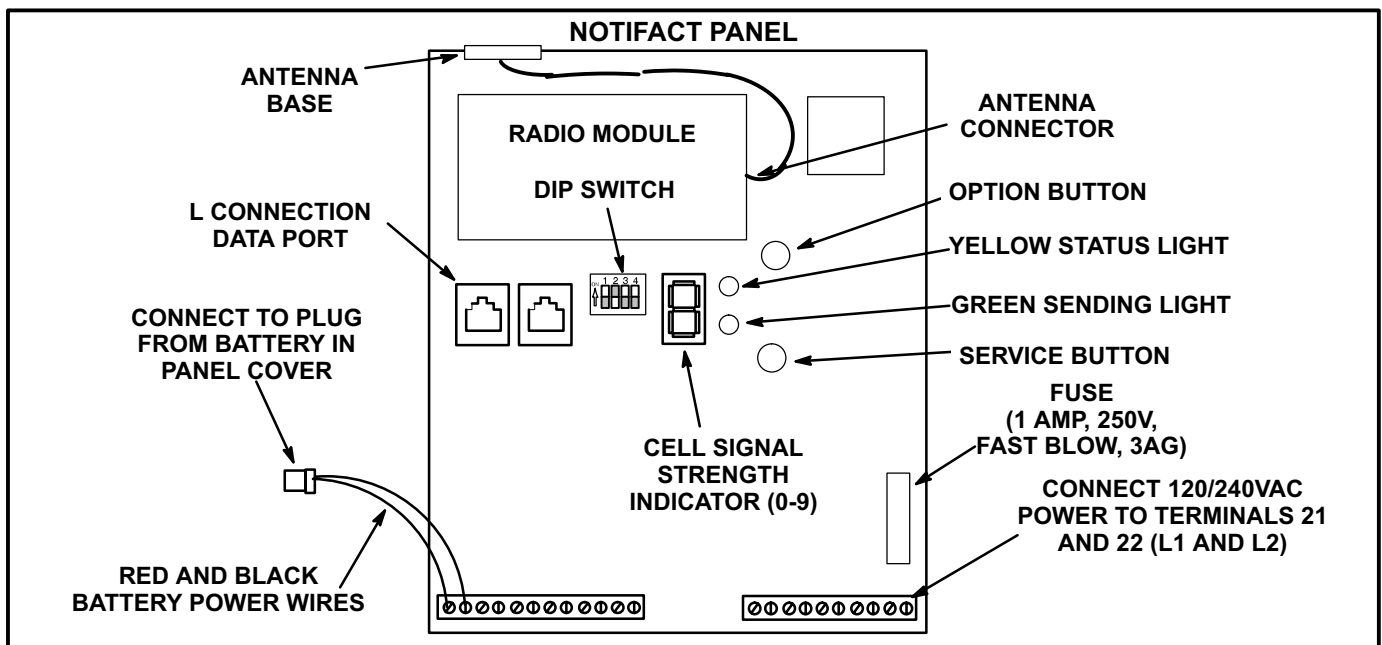

FIGURE 1
Connect the Notifact black and red battery power connectors. See figure 1. Wait up to several minutes to allow the panel to complete a start-up routine. Move the Notifact panel to different areas of the building. The panel LED readout, ranging from 0 to 9, indicates cell strength. A signal strength less than 2 will not provide reliable message transmission. If an area with a good signal can not be found, install the panel directly on the unit or connect an optional remote antenna.
- 8- Connect power wiring (85-240V) to terminals 21 and 22 on panel bottom right terminal block. See figure 1.